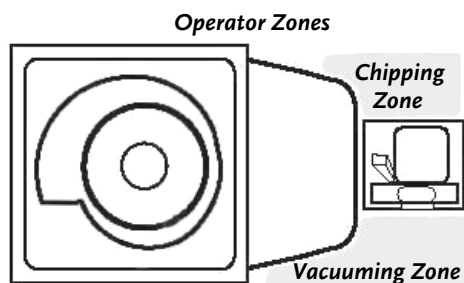

Figure 28
NOTE: *Always* be sure to stand inside the **Operator Zones** to run the DR LEAF and LAWN VACUUM as a chipper or held hand vacuum. These are the areas on either side of your machine (**Figure 28**).
- ALWAYS OPERATE THE CHIPPER FROM THE "CHIPPING ZONE" (SEE *FIGURE 28* ON PAGE 28).